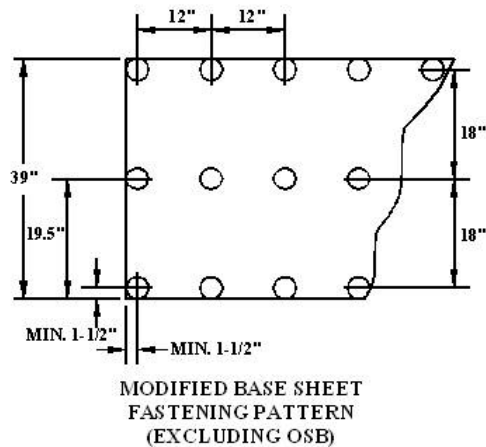

Figure 7
- a) When no insulation is specified and VersiFleece AC or VersiFleece KEE HP Membranes is to be directly mopped to a Versico Modified Base Sheet. The base sheet must be fastened with Versico HPV or HPVX Fasteners with 3" diameter insulation plates are used to attach the Versico Modified Base Sheet in rows 18" apart, 12" on center, refer to the fastening pattern in figure 7.